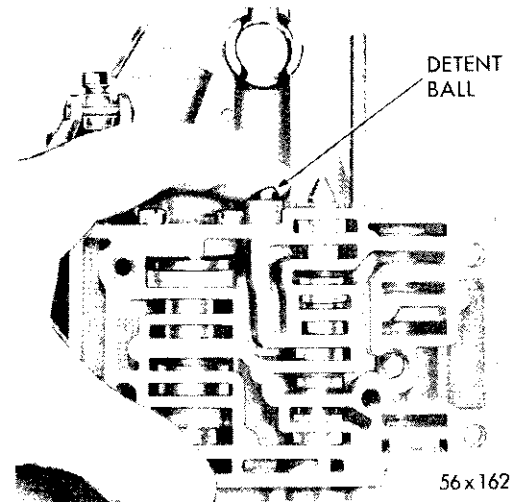

Fig. 49—Holding Manual Valve Lever Detent Ball
(2) Place manual valve in its bore.
(3) Install shift valve. Install shift valve plug and tighten screws securely.
(4) Place manual valve lever detent spring and ball in valve body and hold in position, as shown in Figure 49. While holding the detent ball, position the manual valve lever assembly so that the lever arm engages the manual valve (manual valve may be positioned to assist in this alignment) and the push button control cable adapter in direct alignment with the control cable adapter clip. (Refer to Fig. 50.) At the same time, align the shoulder on the manual valve lever with the sleeve bore in the valve body so that the detent ball will engage the detent plate when finger pressure on detent ball is released.